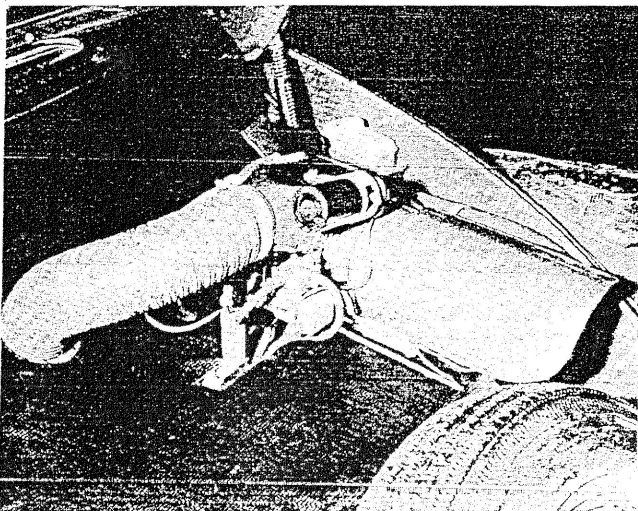
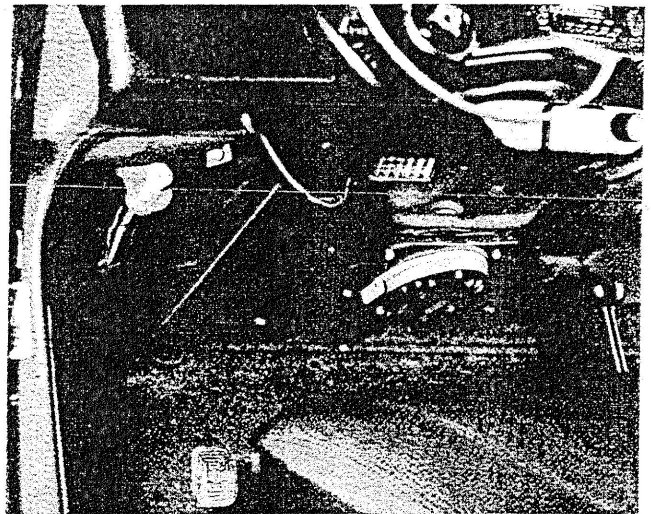

Figure 1 - Heater Unit Installed
Figure 2 - Heater Switch and Hot Air Outlet
The heater is installed in the luggage compartment on the left side. (As seen from the driver's seat; see Figure 1.) The ventilating air louver plate assembly which directs the heated air into the passenger compartment is located in the center on underside of the luggage compartment floor. See Figure 2.
6. Lay the insulation pad and covering on luggage compartment floor and cut a hole through both coinciding with 3-1/2 inch hole cut in step 3, to permit clearance for the collar on the air outlet adapter and the air duct. See Figure 1.
8. Cut or trim the floor covering on left side to allow clearance for the front heater mounting bracket, exhaust tube, combustion air intake duct and drain tube. See Figure 1.
holes in plate with holes drilled in luggage floor. Secure with the four small sheet metal screws. See Figure 2.
1. Furnished in heater kit is a heater switch assembled to a mounting bracket to be installed on the underside of the instrument panel in the driver's compartment. Refer to Figure 2 for location of the switch mounting bracket.
2. Using the bracket as a template drill the two 3/32 inch holes and secure with the two sheet metal screws. See Figure 2.
3. A 3/4 inch hole must be cut in luggage compartment floor to pass the switch control cable and wiring through. Locate and drill the 3/4 inch hole six (6) inches directly behind the heater switch, being careful not to drill into any wires or tubes lying on luggage compartment floor. See Figures 2 and 3.